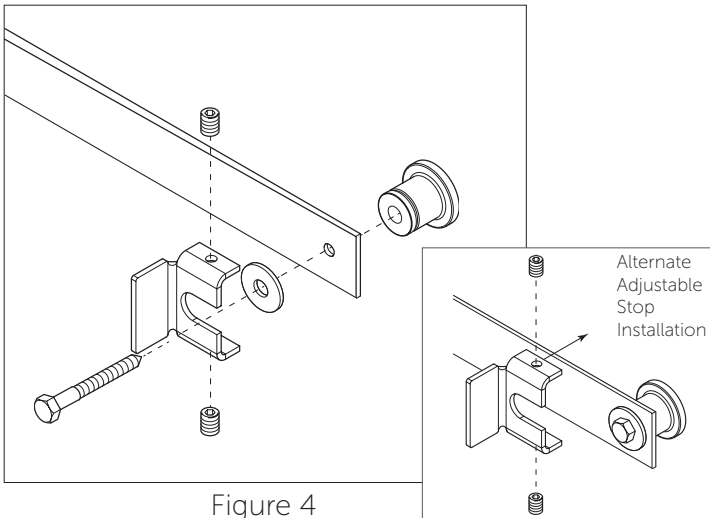

Figure 4
7. Attach one end of the track to the wall with one adjustable hard stop (H.) (see NOTE), one lag screw (B.), and one washer (E.) using a socket wrench with 9/16" socket (Figure 4). Do not tighten.
8. Insert two set screws (provided) into the top and bottom of the adjustable hard stop using an allen wrench (Figure 4). Do not tighten if in line with a spacer.